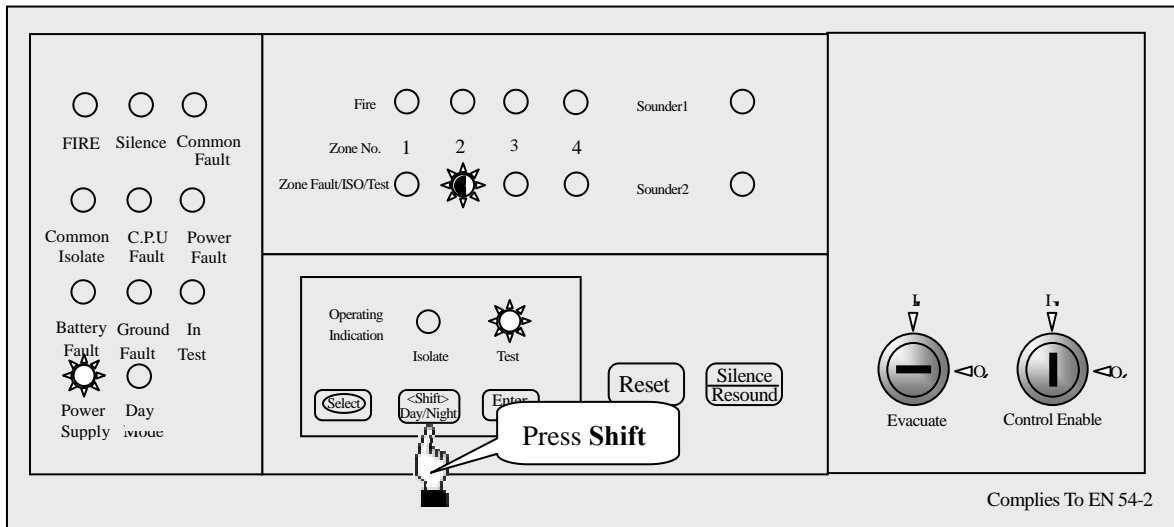

Fig.4.3b
4.3.3 Press the **Select** pushbutton to select a zone being tested (e.g. select zone 2 in Fig.4.3b and Fig.4.3c). Press the **Shift** pushbutton, the testing state of the selected zone will be changed and indicated by the **Fire** indicator of the corresponding zone, which is extinguished in the normal state and illuminated steadily when testing. The **Zone Fault/ISO/Test** indicator of the corresponding zone flashes when this zone is selected, indicating the selection state. The operations of confirming and canceling are the same with isolate setting.